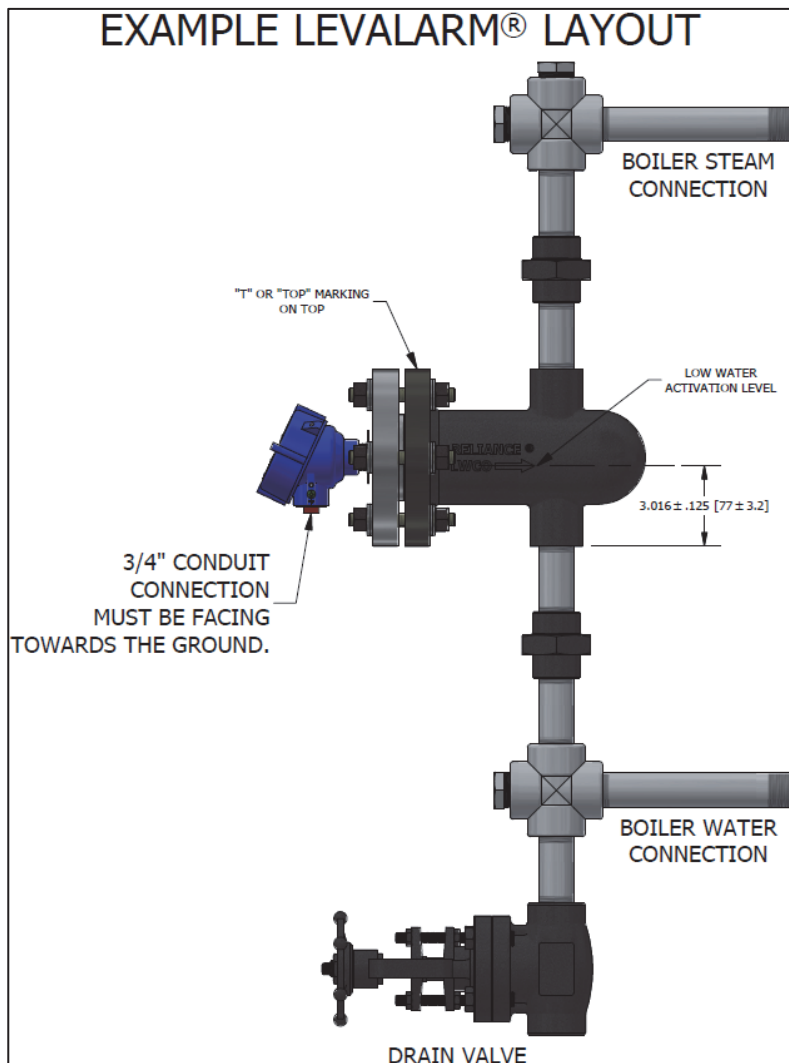

Figure 2
**NOTE: the "T" or "Top" must be visible from the top view of the switch for the switch to be in its correct orientation. See Figure 2 for a visual.
3. Utilize either the 1" NPT or 1" Socket Weld connection to connect to existing or new piping. Install valve(s) in accordance with applicable standards. A drain connection with shut off valve must be installed below the water connection and routed to a point of safe discharge for blowdowns. Reference Figure 2 for a piping example.